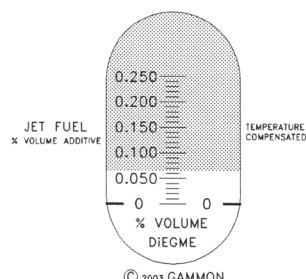

Figure 2
- STEP 7** Using the same technique as in Step 3, transfer one or two drops from the aluminum dish to the refractometer prism; close the cover and observe the position of the shadow line. Figure 2 shows a typical test result for fuel containing 0.065% DiEGME.